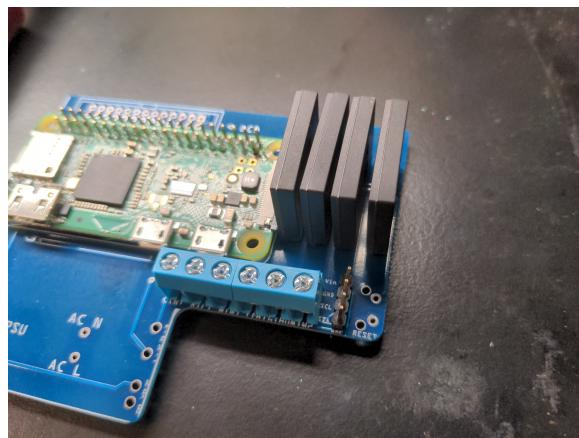

Figure 5: Relays soldered into place
4. Solder relays in place (figure 5)